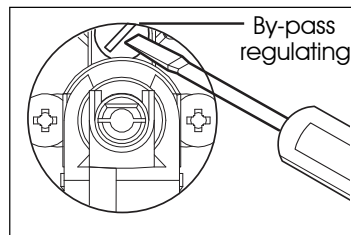

Figure 14a
2. Remove the knob of the corresponding gas tap and insert screwdriver in the screw as shown in figure 14a or 14b (DUAL).